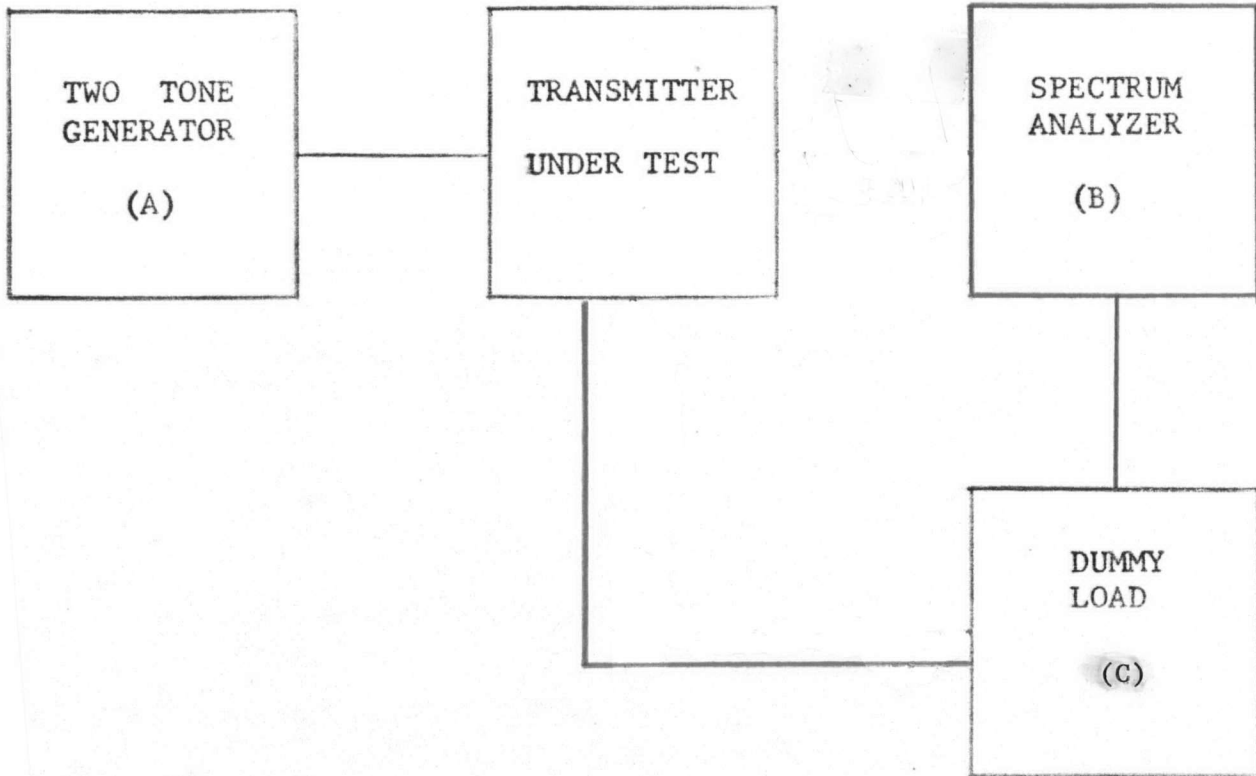

FIGURE 2.5
- a. Connect the equipment as indicated in Figure 2.5.